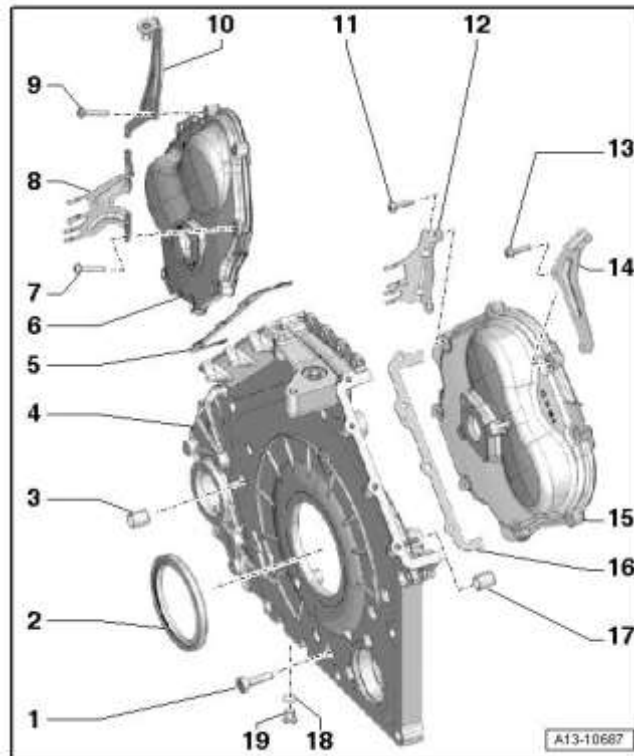
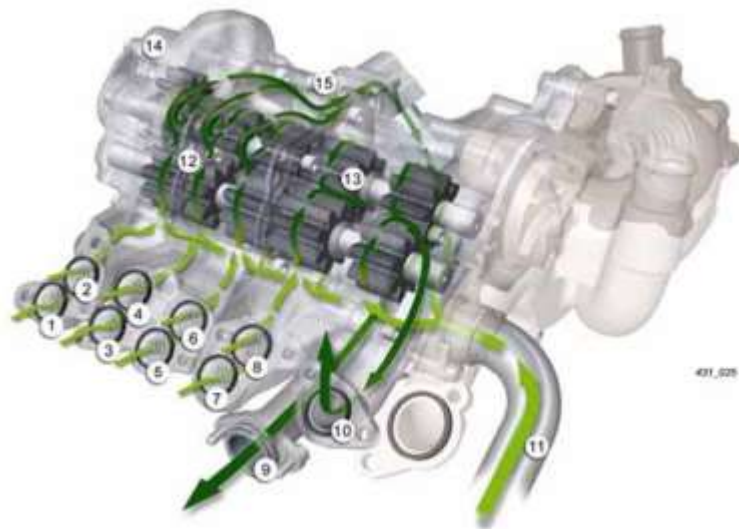

Figure 1. Timing cover area.
Figure 2. Potential leak near crank.
2. If, for example the left, right, or lower cover of the timing chains has been removed and resealed, an excessive application of sealant could block the oil pump strainers number 1 through 8 of the oil pump (Figure 2). This causes a leak at the rear crankshaft seal number 2 (Figure 1), due to an increased oil level in the lower timing cover when the engine is switched off.